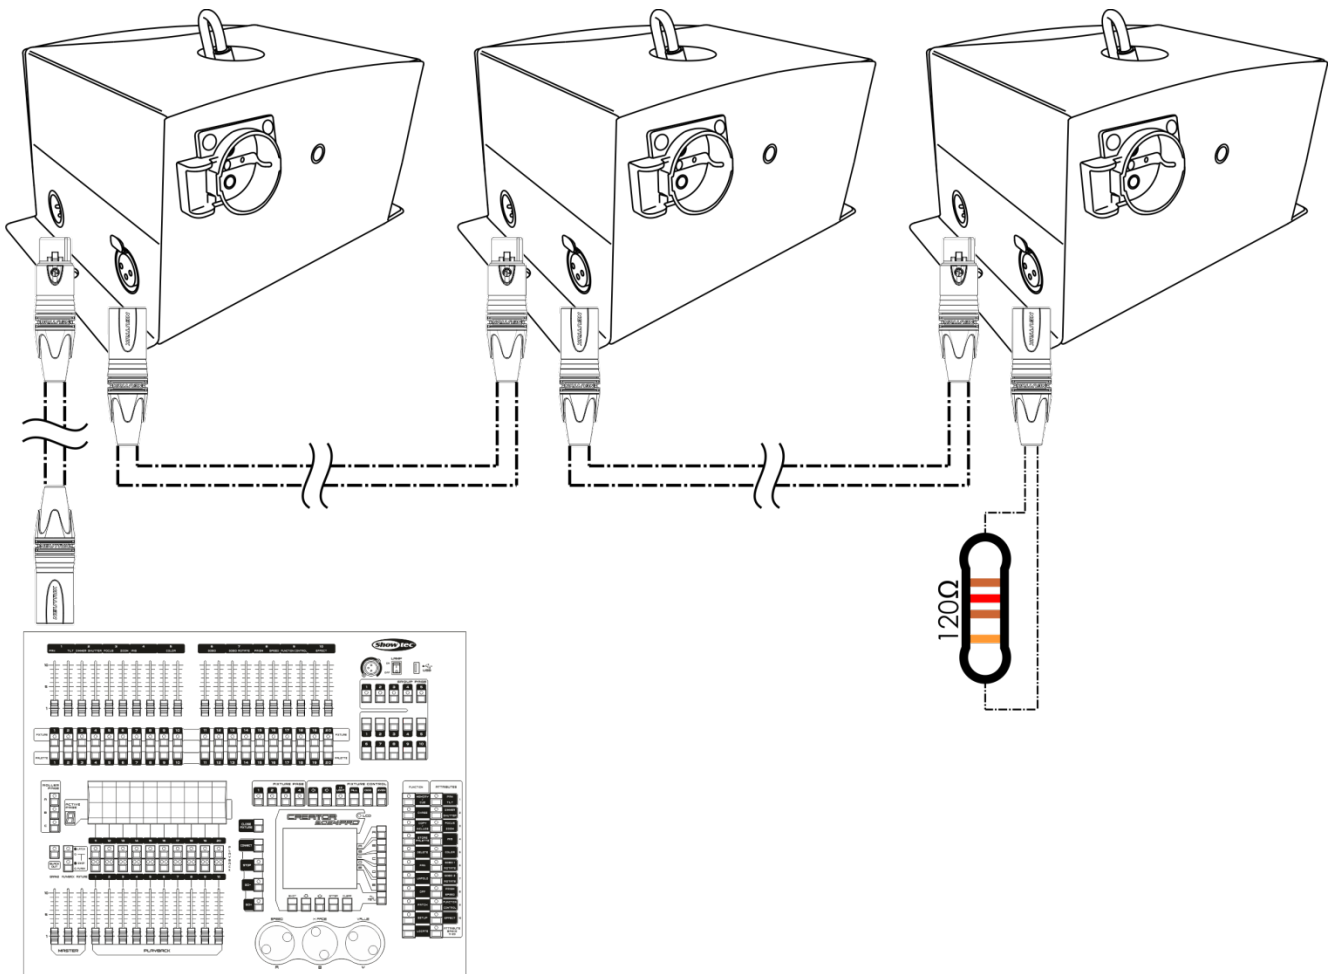

Fig. 04
- 04) Link the units as shown in (fig.04). Connect a DMX signal cable from the first unit's DMX "out" socket to the second unit's "in" socket. Repeat this process to link the second, third, and fourth units.